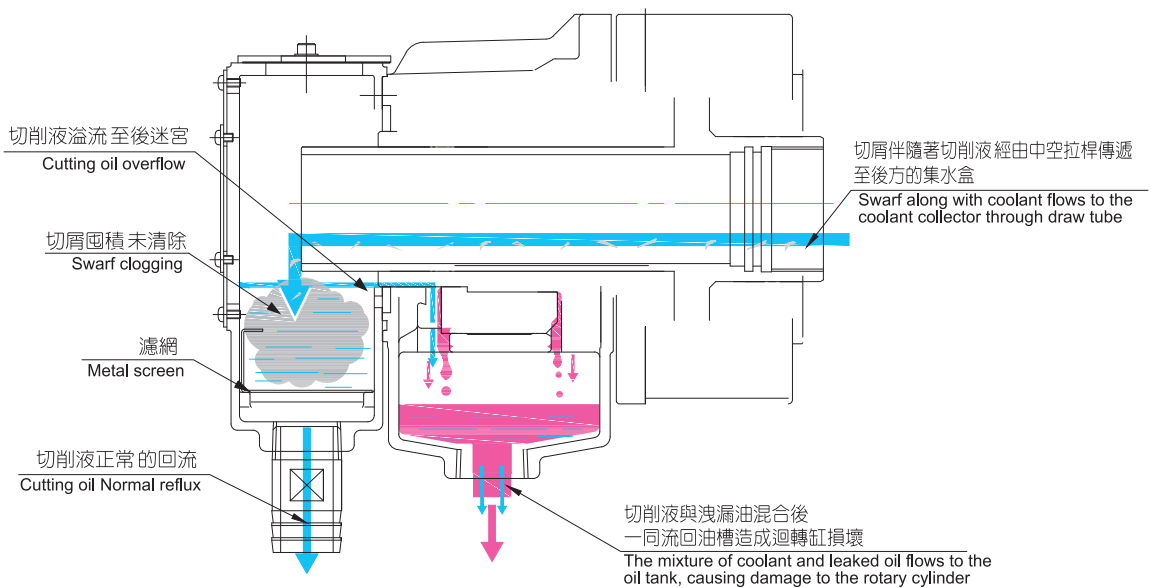

Fig.12
- 集水盒堆積過多之切屑，導致切削液及雜質溢流回罩殼油槽，造成油壓缸損壞，亦可能造成油壓泵有不正常之磨損，須保持切削液暢通，參考 Fig.12。
- Excessive swarf clogging in the coolant collector may cause the coolant and impurities to overflow to the oil tank, thus resulting in damage to the rotary cylinder. Moreover, it may also cause abnormal wear and tear to the oil hydraulic pump; therefore, it is necessary to keep the the coolant flowing smoothly. (Refer to Fig.12)